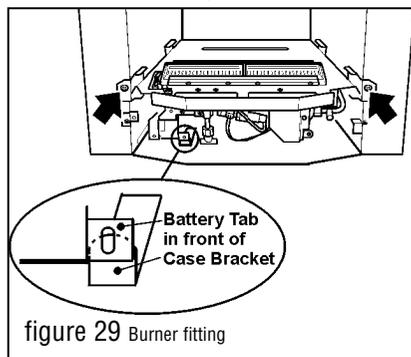

figure 29 Burner fitting
10.4.5 Detach the burner unit from the convection box by removing two screws (see figure 29). Lift the burner unit clear.
10.4.6 Refit in the reverse order. Make sure that the tab at the right side of the battery box is in front of the “L” shaped bracket which projects up from the fire case base. See figure 29.
projects up from the fire case base. See figure 29.
- 10.7.8 Refit in the reverse order. When refitting the burner unit, make sure that the tab at the right side of the battery box is in front of the “L” shaped bracket which projects up from the fire case base. See figure 29.
the tab at the right side of the battery box is in front of the "L" shaped bracket which projects up from the fire case base. See figure 29.
10.9.9 Refit in the reverse order. When refitting the burner unit, make sure that the tab at the right side of the battery box is in front of the "L" shaped bracket which projects up from the fire case base. See figure 29.
- 10.10.4** Refit in the reverse order. When refitting the burner unit, make sure that the tab at the right side of the battery box is in front of the "L" shaped bracket which projects up from the fire case base. See figure 29.